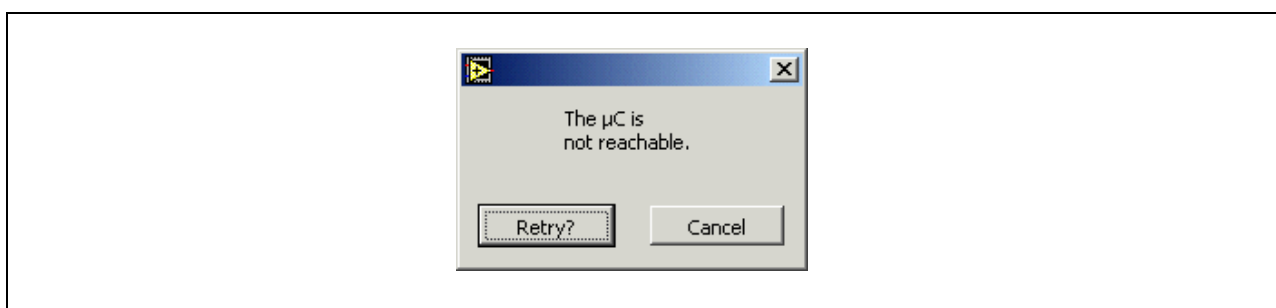

**Figure 3** User interface screen
With this software it is possible to program sequences in the memory of the  $\mu$ C. Custom sequences can be created by pushing the “Add” button in the TLE7242G user interface (section 4 in Figure 3). An example sequence can be found on the CD, how to use it see the description below:
1. Click “Sequence” and then “Load” (section 5 in Figure 3)